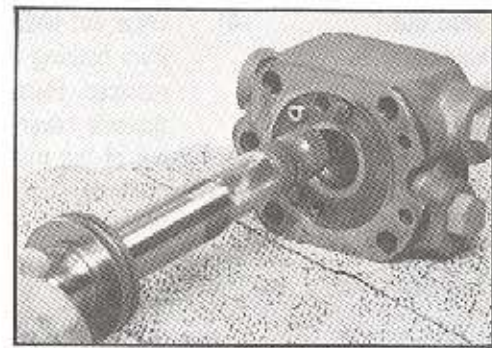

Figure 85
37. Carefully remove valve assembly (18) intact from worm shaft (25B) and set aside for inspection and assembly procedures. SEE FIGURE 85.